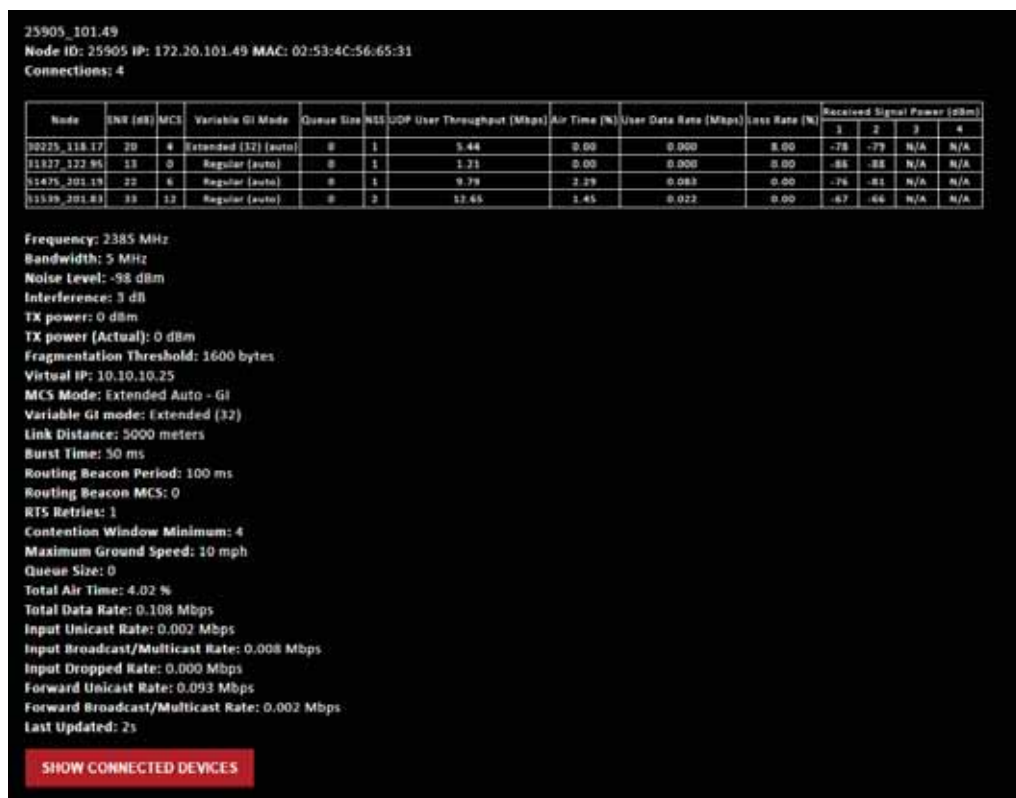

Figure 43 Individual Node Characteristics
- **Individual Node Characteristics** – By double clicking on any node in the network, users can view key operating characteristics of the node. **Figure 43 Individual Node Characteristics** shows an example of this for 'node25905'. The characteristics shown are: